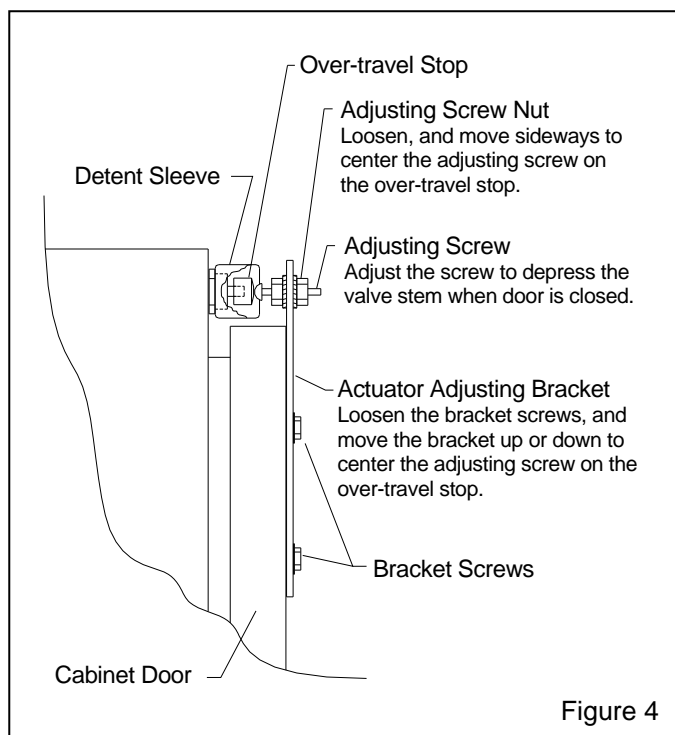

Figure 4
5.4 Door Interlocks, Figure 4.